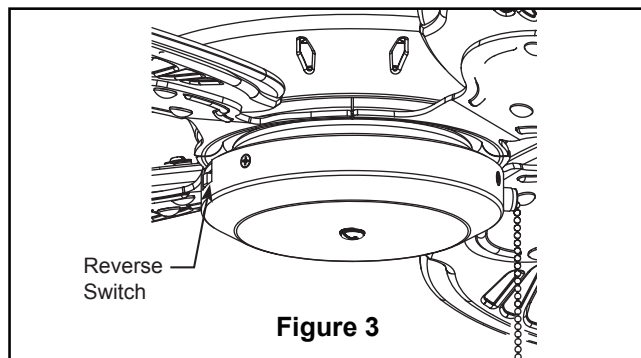

Figure 3
- ☐ 3. If airflow is desired in the opposite direction, turn the fan off and wait for the blades to stop turning. Slide the reverse switch on the switch cup assembly to the opposite position and turn fan on again. (Figure 3)